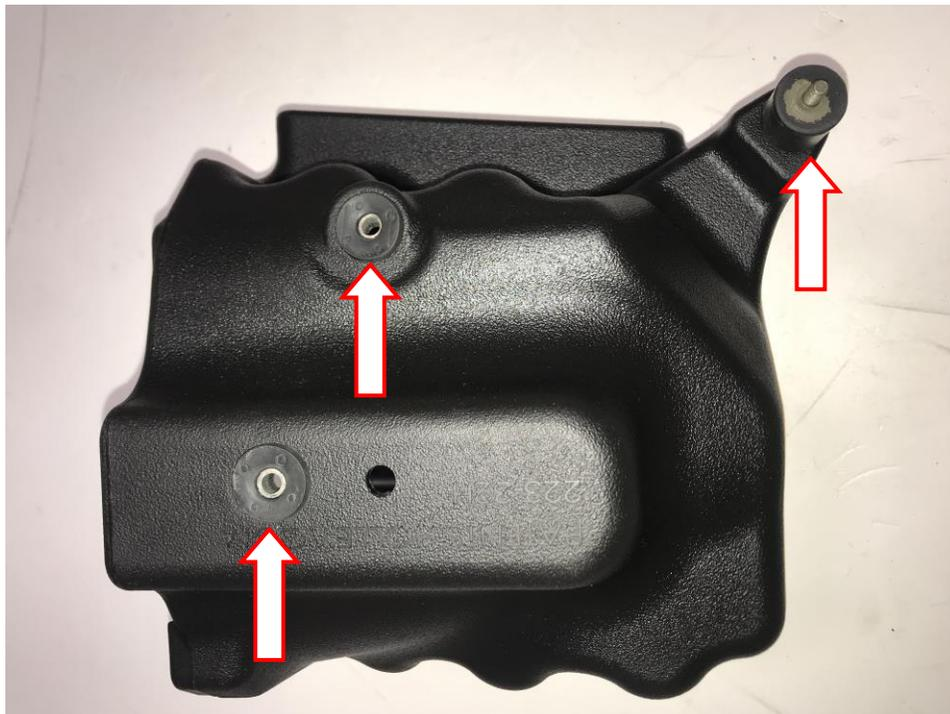

Figure 3
8. Remove (x2) metal sleeves and (x2) rubber grommets from the factory airbox and install in the iNTECH housing in the same manner they were removed (**Figure 3**).
9. Install the provided rubber isolation mount into the threaded insert on the bottom of the iNTECH housing (**Figure 3**).